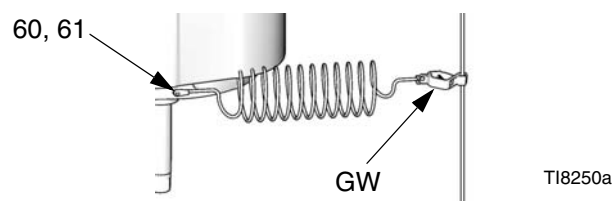

FIG. 2. Ground Wire
See FIG. 2. Use the ground screw (60) and lockwasher (61) to attach Part No. 244524 Ground Wire (GW) at the rear of the air motor. Tighten the screw securely. Connect the other end of the ground wire to a true earth ground.